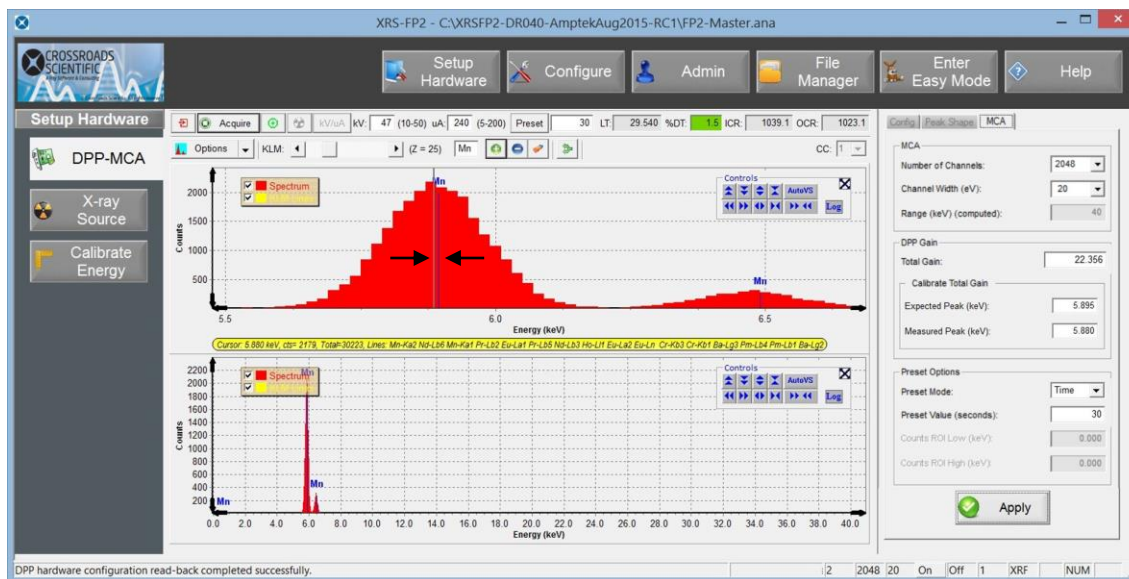

**Figure 9. XRS-FP2 Software – Calibrate Energy Workflow.** Compare the actual & expected peak locations.
- j) Use an Fe-55 radioisotope source or an x-ray tube to generate a spectrum from a known sample. For this step we just need one peak that is not overlapped, so Fe-55 is perfect for this. Click on the **Acquire** button above the spectrum display in XRS-FP2 to collect a spectrum for about 30 seconds. Compare the peak location to the expected location. In the example below (Figure 9) the Mn-K $\alpha$ , $\beta$  peaks are shown along with the Mn-K line markers.